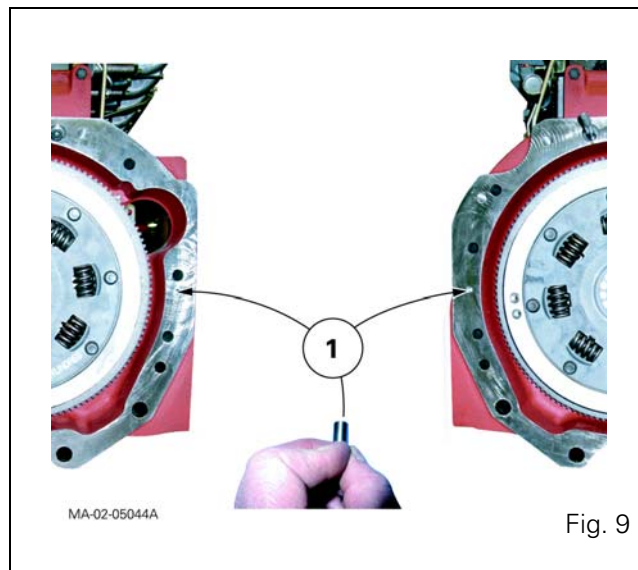

Fig. 9
- the presence of locating pins (1) on the engine (Fig. 9),